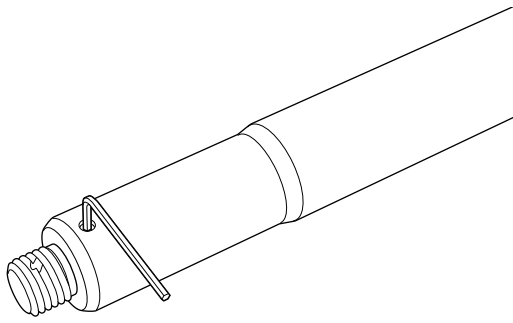

Figure 11: Using Hex Wrench to Loosen M20 Slug Set Screws
2. Loosen the set screws using a 2.5 mm hex wrench. Do not loosen so far that the screws fall out of the pole and are lost (Figure 11).